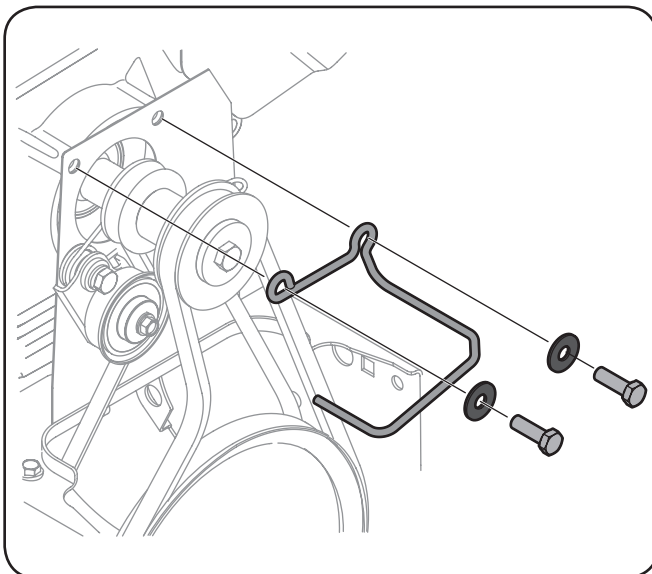

Fig. 7-2
3. If your unit is equipped with a wire belt guide, washers and hex bolts shown in Figure 7-2 loosen and remove them.